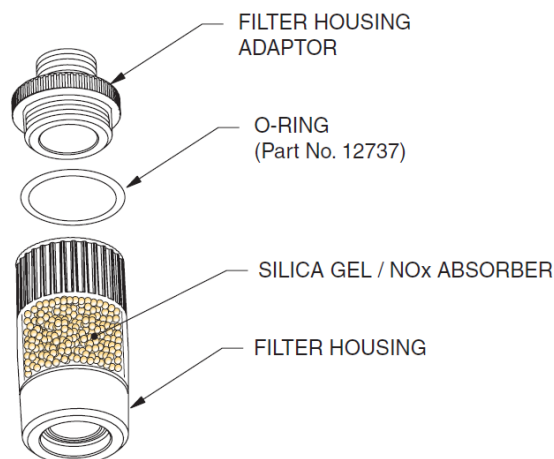

Figure 68: Filter Housing Adaptor Removal
- If the content of the chemical filter is to be replaced, hold the filter assembly in the upright position, as shown in Figure 68: Filter Housing Adaptor Removal.